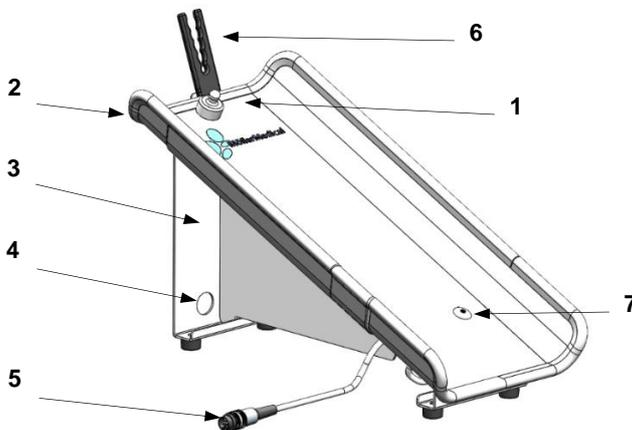

Figure 4
4. Insert the connecting cables of the Heating Trays (see *Figure 4*, position 5) into a corresponding connection socket of the **Thermia Pro** Console (see *Figure 1* position 4 or 5).